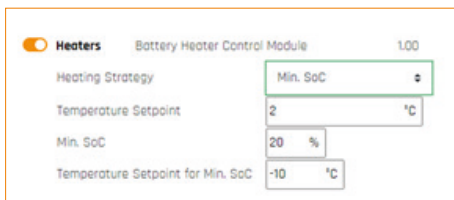

Figure 37. Be in Charge Software: Heater module configuration
3. Remove the 4 screws on the bottom side of the enclosure using an M3 Torx screwdriver shown in Figure 37.